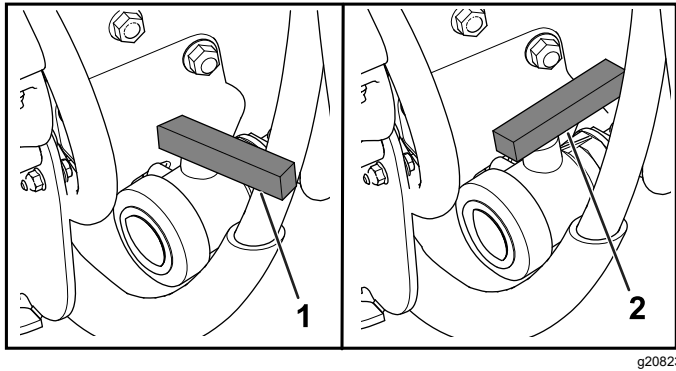

Figure 93
3. Open the valve to drain all unused material from the tank (Figure 93).
4. Close the drain valve (Figure 93).